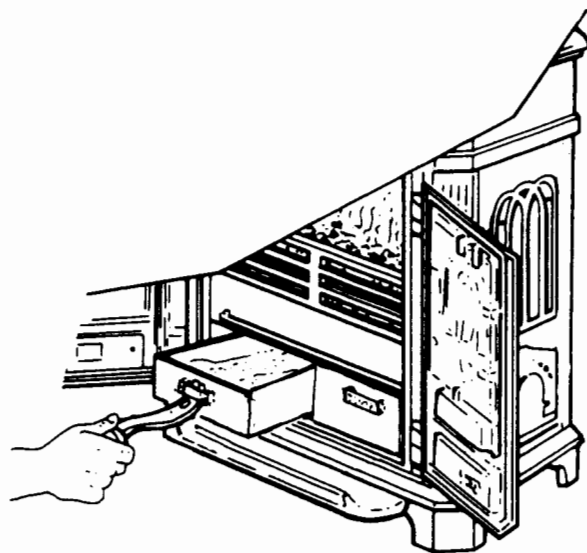

Fig. 5
c. Remove the ash pans with the operating tool, Fig.5.